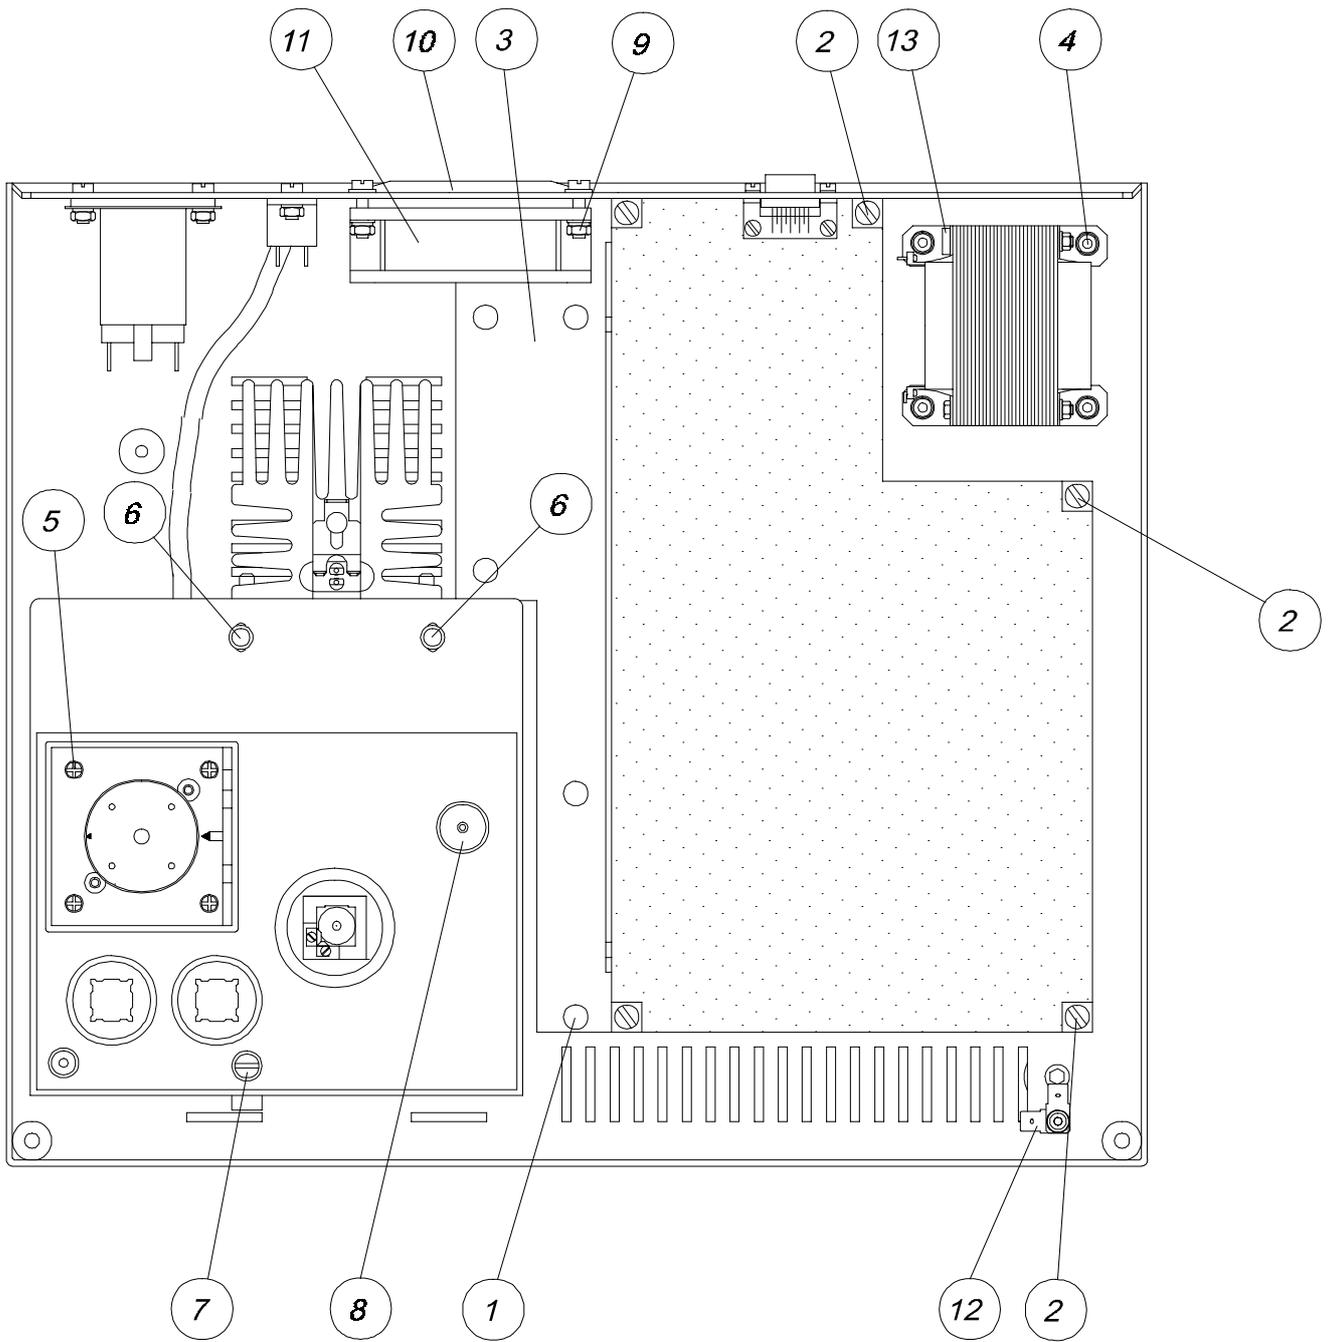

Fig. 5.2
- c) Remove the two screws (1) located in the lower part of the instrument.
- d) Remove the two screws (2) located in the rear part of the instrument.
- f) In case it to be fully removed, disconnect the flat bands (J19 and J10) from the main board, and the printer and display ground tab-in terminals (12 from fig. 5.2).
See figure 5.2
The transformer is fixed to the base. To change it proceed as follows (see figure 5.2):
To manipulate certain elements of the optical system it is necessary to remove the tray that supports the pump. Proceed as follows (see figure 5.2):
(See figure 5.2)